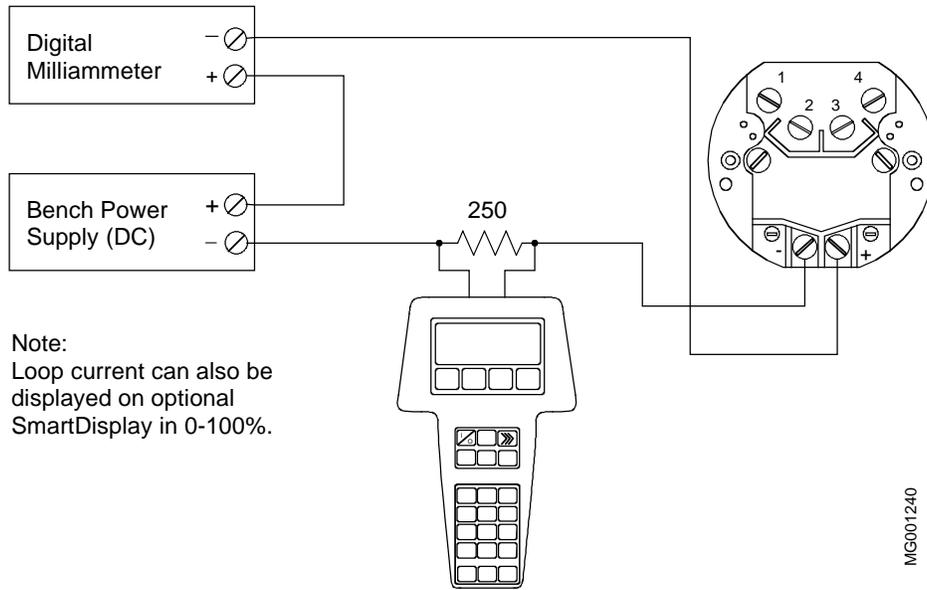

FIGURE 7-1 Bench Test Connections
Recommended test equipment is listed in Section 7.1.1 and typical wiring diagrams are shown in Figures 7-1 and 7-2.
3. Connect the HART Communicator and DMM to the loop as shown in either Figure 7-1 or 7-2. Set the DMM to measure mA.